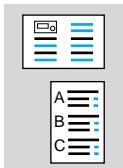

Fig.283 Shaft of mattress tray tilt adjustment
16. Remove spring washer (1) from shaft of mattress tray tilt adjustment, see Fig. 283.